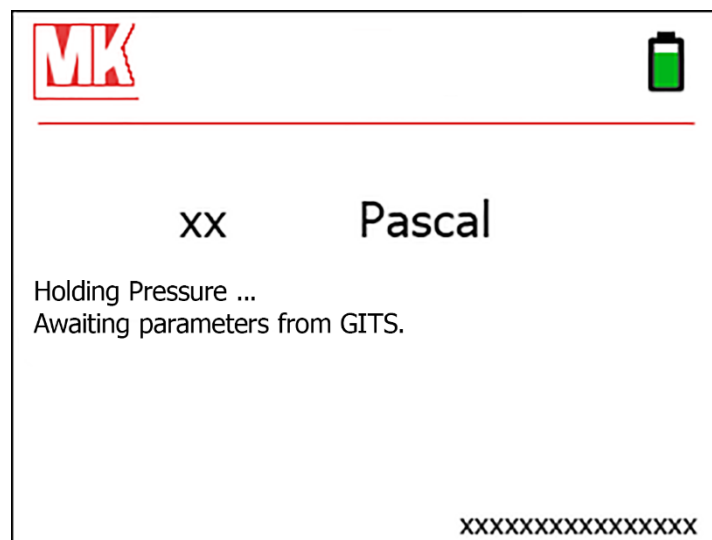

Figure 9: Display, Pressure is built up and maintained
- ✓ The Glove Test Device is inserted into the port and ready for operation (figure 9).